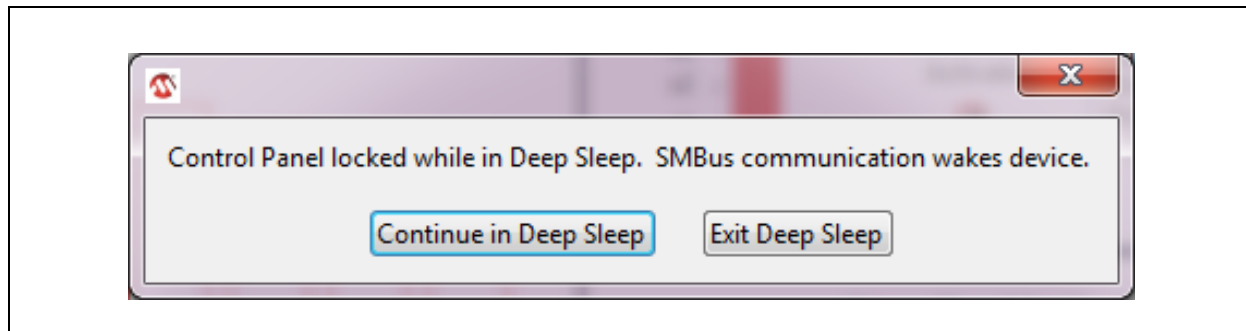
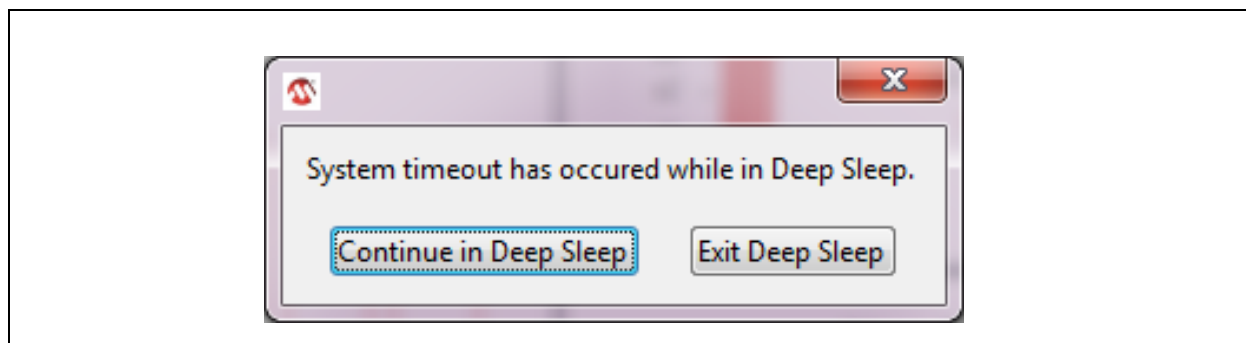

Figure 4.17 Deep Sleep Message
Figure 4.18 Deep Sleep Timeout Message
- The Deep Sleep switch puts the device into the Deep Sleep state. To exit Deep Sleep, click anywhere on the GUI to display the message shown in Figure 4.17. There is also a timeout that will display the message shown in Figure 4.18.